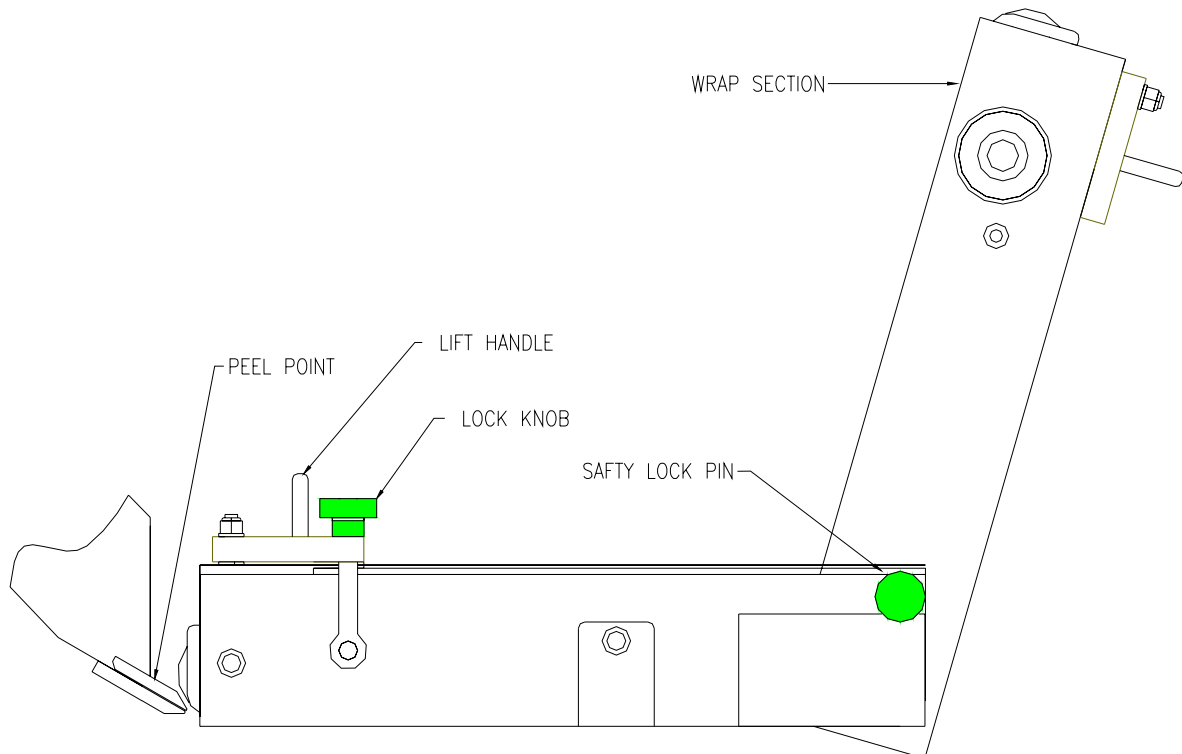

Figure 17
1. Loosen wrap section lock knobs and raise pivoting portion of wrap section (Figure 17).